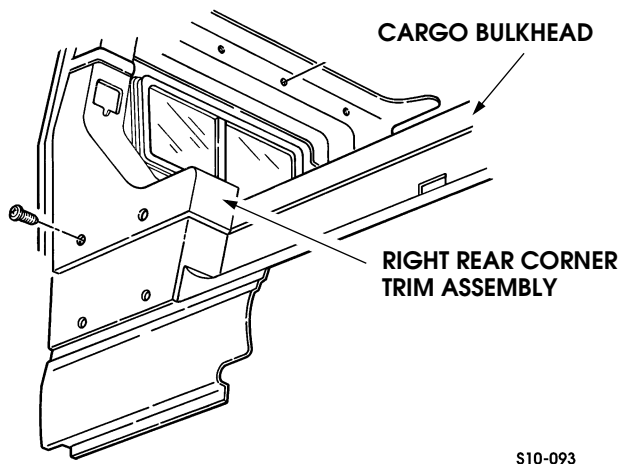

Figure 12-106: Removing Right Rear Trim Piece
3. Remove right rear corner trim assembly (Figure 12-106).
4. Install right rear trim piece (Figure 12-106).